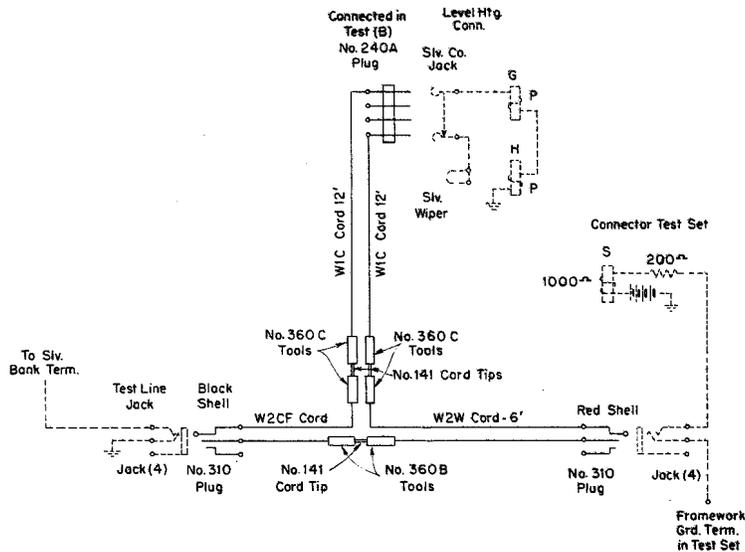

Fig. 1
4	Connect test set jack 4 to test line jack 4 (level hunting) on connector frame, using special test cord, Fig. 1.
- 2.06 Testing Cords - W2W Cord equipped with No. 310 Plug, No. 36OB Tool, and No. 36OC Tool (2W17A); W2CF Cord equipped with No. 310 Plug (replace red shell with black shell), No. 36OB Tool, and No. 36OC Tool (2W17D); two W1C Cords, each 12 feet long; two No. 36OC Tools; No. 24OA Plug; and three No. 141 Cord Tips. Connect to form Special Cord as shown in Fig. 1.
12	Insert No. 240A plug (stay cord to the right) of special test cord, Fig. 1, into sleeve cutoff jack of connector. Note: If sleeve cutoff jack wiring is reversed, reverse No. 240A plug.